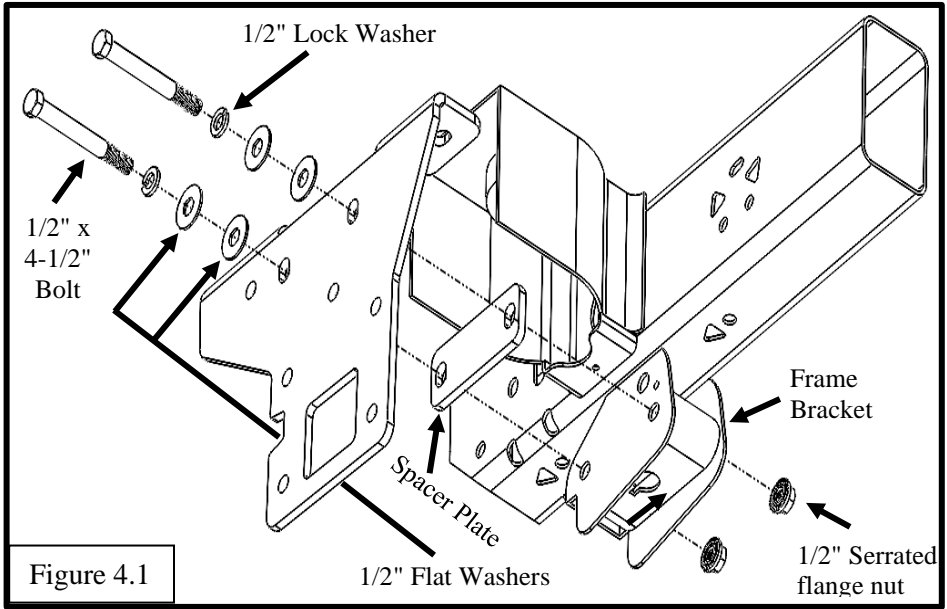

Figure 4.1
- Secure each bolt with one 1/2" serrated flange nut. See figure 4.1.